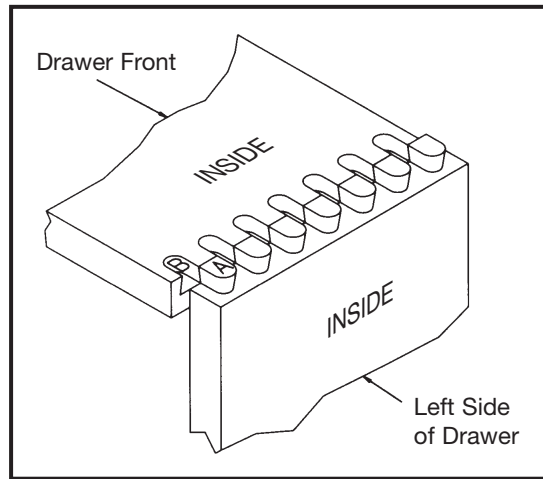

Fig. 10
6. Next, examine the drawer pieces to make sure they have been cleanly routed. See Fig. 10.
7. Remove drawer pieces and fit together, matching dovetail (A) with slot (B), Fig. 10. If **joint is loose**, slightly **increase depth** of cut. If **joint is tight**, slightly **decrease depth** of cut. The bit is raised or lowered by adjusting the router motor in the router base with the motor "off".